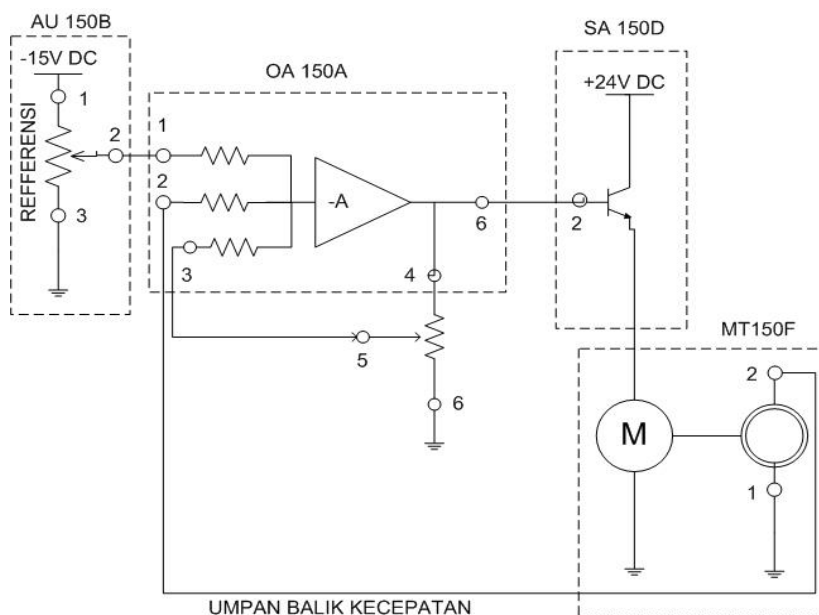

Figure 7. Speed control system circuit with gain
1. Make the circuit like Figure 7. Don't connect the tachogenerator voltage on OA150A (warn the polarity of the connector).
3. Set potentiometer (2) in gain position 1, and set the reference voltage on potentiometer (1) until motor have angular velocity about 2000rpm.
5. Repeat for gain 10, and set the reference voltage on potentiometer (1) until motor have angular velocity about 2000 rpm.